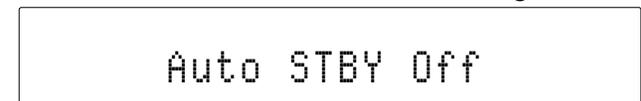

Figure 44
1. Using the MCT500 Remote Control, press and hold in the  (Power) Push-button for about 5-10 seconds, at which time the Front Panel Display indicates "Auto STBY Off". Refer to figure 44.